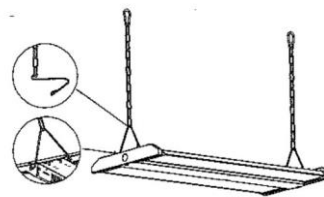

Figure 1
1. Attach the chain to the V hooks (Figure 1)
2. Connect the chain and V hooks to the fixture. (Figure 1)
3. Connect the chain on the rail, adjusting the chain length as needed. (Figure 1)